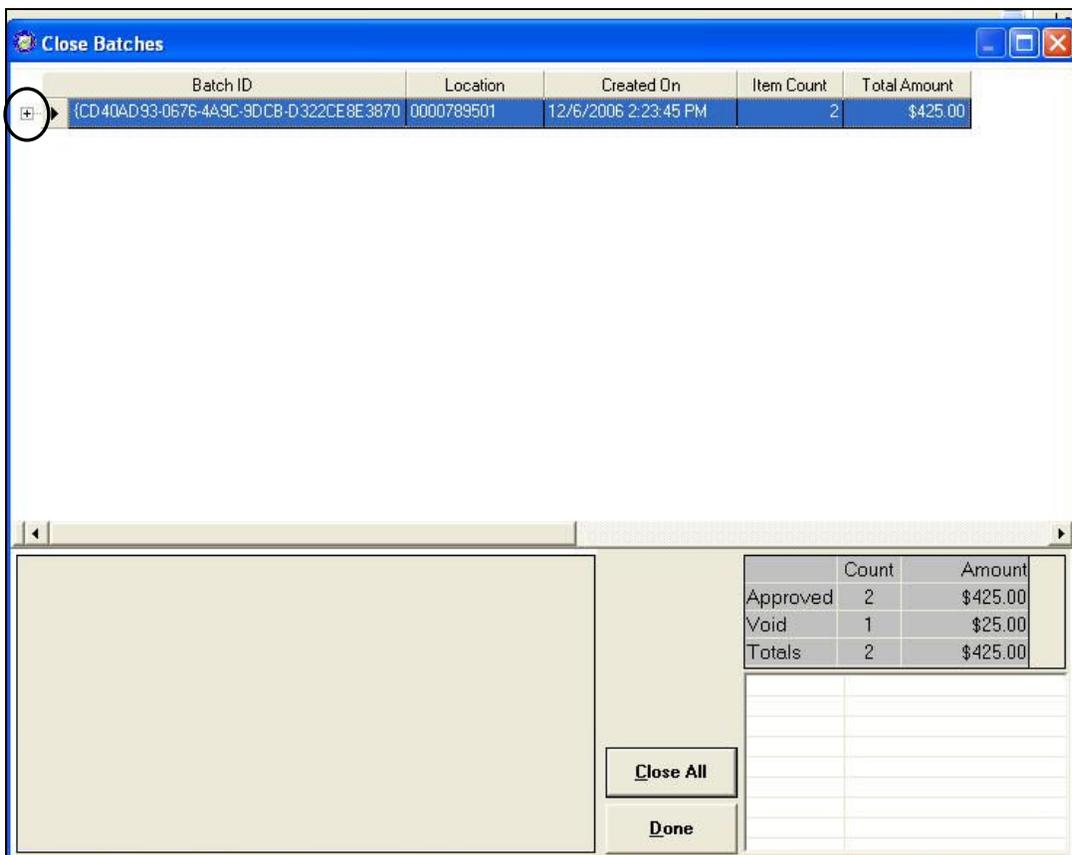
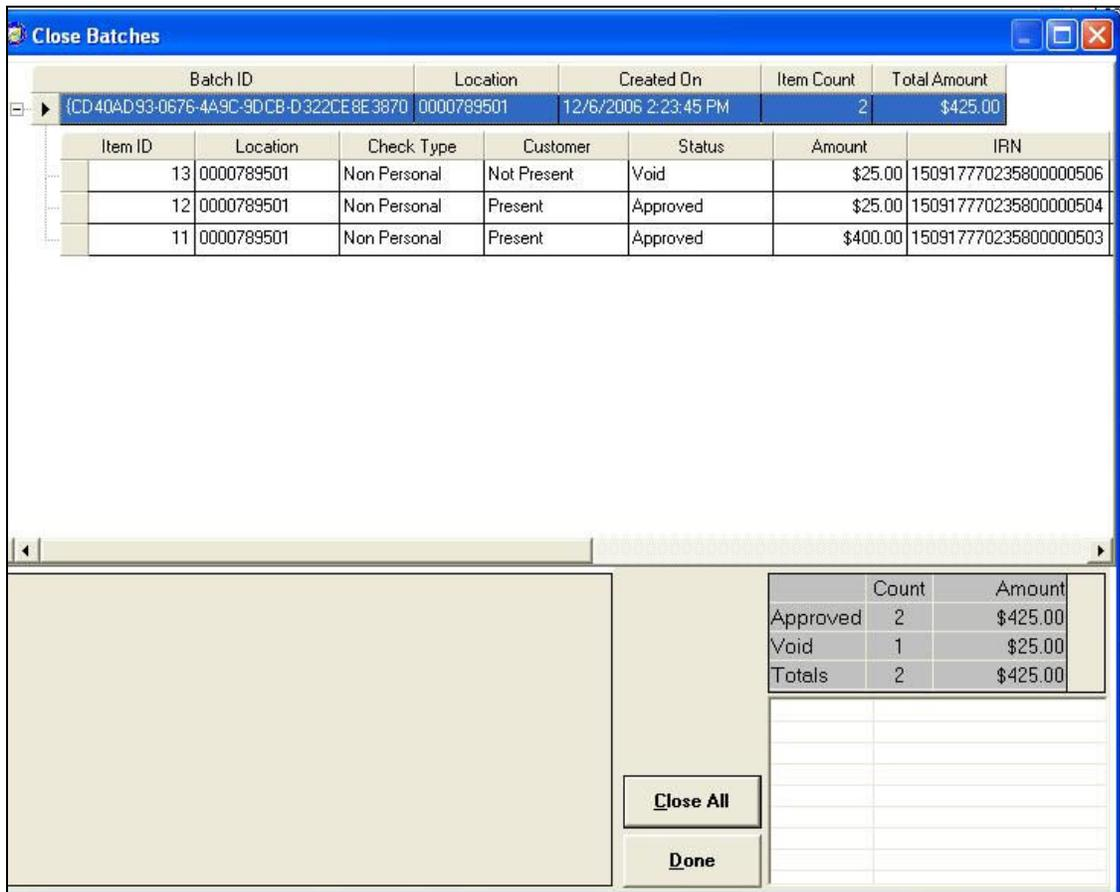

Figure6.62
Figure 6.63
2. A 'Batch List' window appears (Figure 6.62). Click the '+' button to show all of the items that have been scanned into the POS computer for that batch (Figure 6.63). Clicking on each item in the upper window displays that item's image in the lower left portion of the window. The lower right side of the window displays the item count and dollar amount of the approved and voided items as well as total count and dollar amounts.